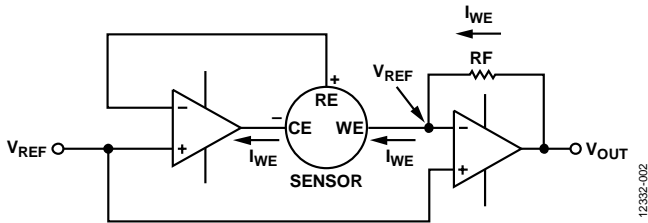

Figure 2. Simplified Electrochemical Sensor Circuit
Figure 2 shows a simplified schematic of an electrochemical sensor measurement circuit. Electrochemical sensors work by allowing gas to diffuse into the sensor through a membrane and by interacting with the working electrode (WE). The sensor reference electrode (RE) provides feedback to Amplifier U2-A, which maintains a constant potential with the WE terminal by varying the voltage at the counter electrode (CE). The direction of the current at the WE terminal depends on whether the reaction occurring within the sensor is oxidation or reduction. In the case of a carbon monoxide sensor, oxidation takes place; therefore, the current flows into the working electrode, which requires the counter electrode to be at a negative voltage (typically 300 mV to 400 mV) with respect to the working electrode. The op amp driving the CE terminal should have an output voltage range of approximately ±1 V with respect to VREF to provide sufficient headroom for operation with different types of sensors (Alphasense Application Note AAN-105-03, *Designing a Potentiostatic Circuit*, Alphasense, Ltd.).